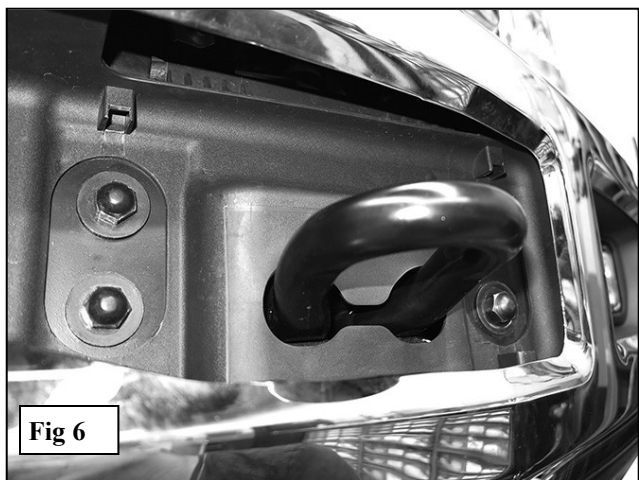

Fig 6
4. Place blocks or jack stands under the front bumper to support it during mounting bolt removal. Once the bumper has been safely supported, remove the (8) factory bumper bolts, **(Figure 6)**.